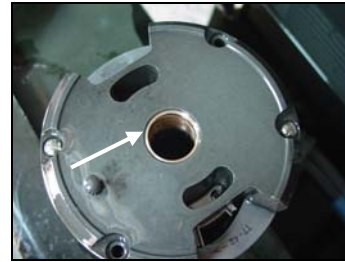

Figure 15 Inspect brass bushing
14. Inspect the brass bushing on the pump cartridge for wear and damage. (Figure 15)